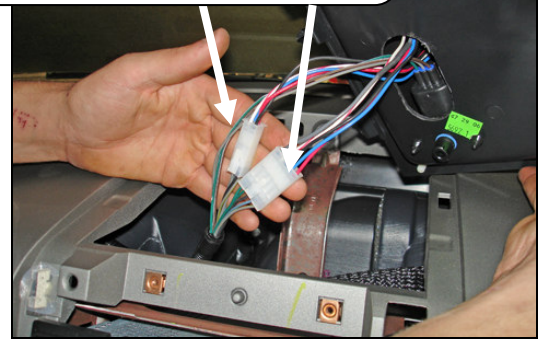

Figure 12
12. Connect both gauge pod white connectors to the mating gauge pod harness connectors (see Figure 12).